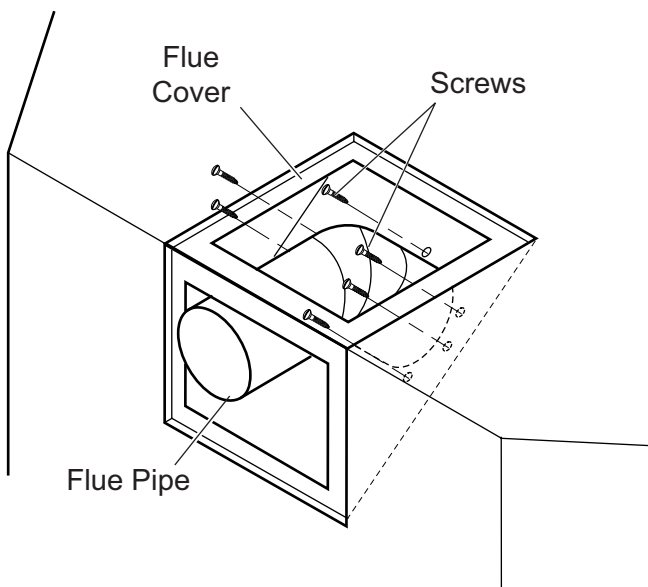

Figure 10 - Removing Flue Pipe
4. Remove six (6) screws securing the flue pipe to the back of the intake box and remove the pipe and gasket. *See Figure 10.*
5. Replace flue pipe to top of firebox. Ensure the gasket is in place and undamaged. Secure with six (6) screws. *See Figure 10.*
7. Refit the flue pipe adapter and gasket to the top of fireplace. Secure the adapter with six (6) screws removed in step 1.